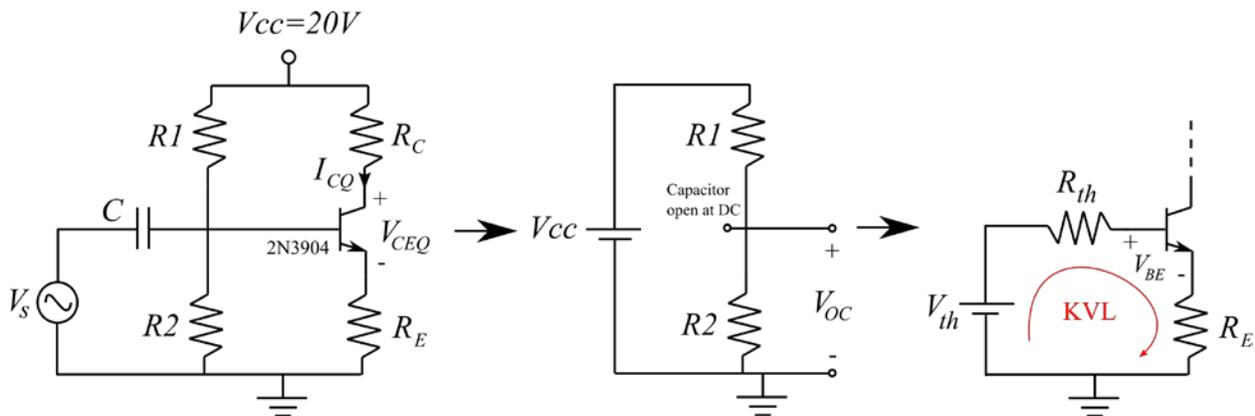

Figure 2: The equivalent circuit of the input bias circuit.
- Referring to Figure 2, set R_{th} to $\frac{(\beta+1)}{10} R_E$ and **calculate the values of R_1 and R_2** . Select the nearest standard values. **Recalculate the value of I_C** . (This will be design #1, but also your bias design for Experiment #5.)